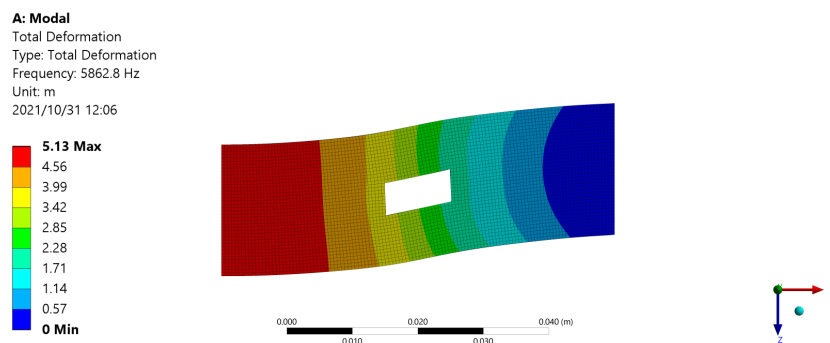

Figure 6: The modal analysis results of a mode.
The results of one of the identified modes are shown in Figure 6. A supplementary video *mode_example.mp4* is included if you need to see a video of the response.
- (a) Which mode is shown in Figure 6? [3 marks]
- (d) Using the modal analysis results in Figure 6, what are the displacement boundary conditions that are applied to the four external sides of the part in the xz -plane? Include a drawing where you show the boundary conditions and show the prescribed displacements. If there are no displacements applied to a side, then please explicitly state so. [5 marks]